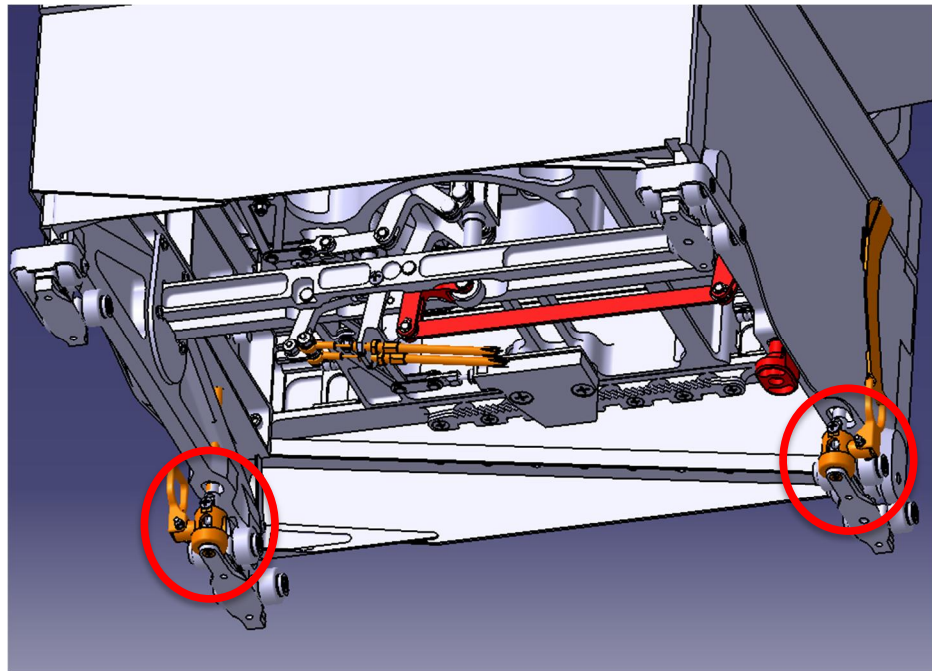

Figure 1 – Observer Seat Lock Plunger
- Before it is completely moved to inboard position and locked (Figure 1),